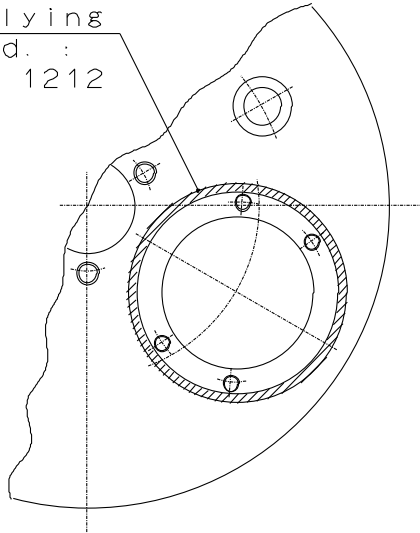

Fig.9
8. Remove the old sealing compound, moisture, oil stain and others. Then apply the new sealing compound 1212 (Three bond co.,ltd.) to the body and the fitting surface of spherical bushing. (Refer to Fig.9)